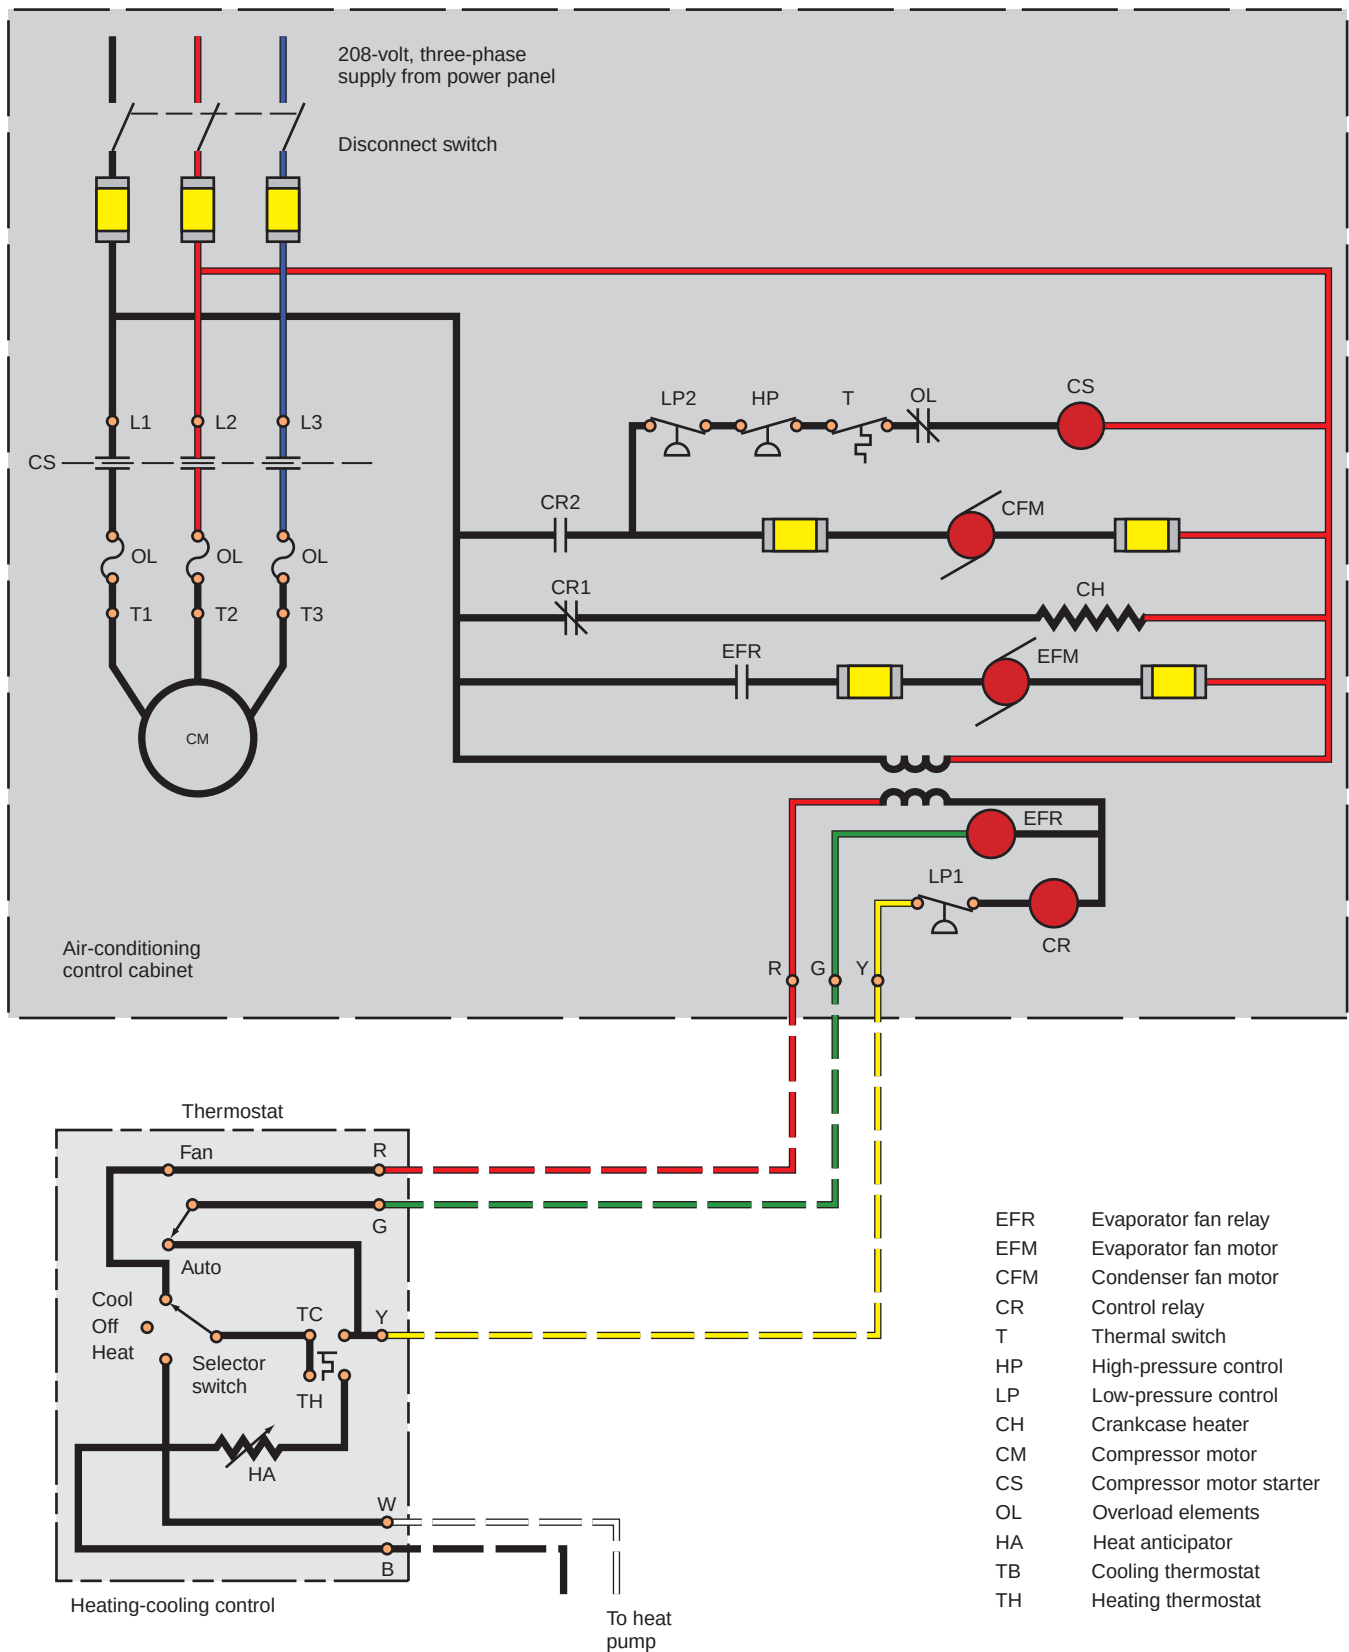

FIGURE 21-9 A cooling system wiring diagram. (Delmar/Cengage Learning)
Figure 21-9 shows a wiring diagram that is representative of standard cooling units.
Contacts LP1 and LP2 open when the refrigerant pressure drops below a set point. When contacts LP2 open, CS is de-energized. When contacts LP1 open, CR is de-energized, the circuit to CFM opens, and the circuit to CH is completed. The high-pressure switch (HP) contacts open and de-energize the compressor motor starter (CS) when the refrigerant pressure is above the set point. The low-pressure control (LP1) is the normal operating control and the high-pressure control (HP) and LP2 act as safety devices. The T contacts shown in Figure 21-9 are located in the compressor motor and open when the winding temperature of the motor is too high. The OL contacts are controlled by the OL elements installed in the power leads to the motor. The OL elements are sized to correspond to the current draw of the motor. That is, a high current causes the overload elements to overheat and open the OL contacts. As a result, the compressor starter is de-energized and the compressor stops. The evaporator fan motor (EFM) used to circulate air in the store area can be run continuously if the fan switch is turned to FAN. Actually, in many situations, it is recommended that the fan motor run continuously to keep the air in motion.